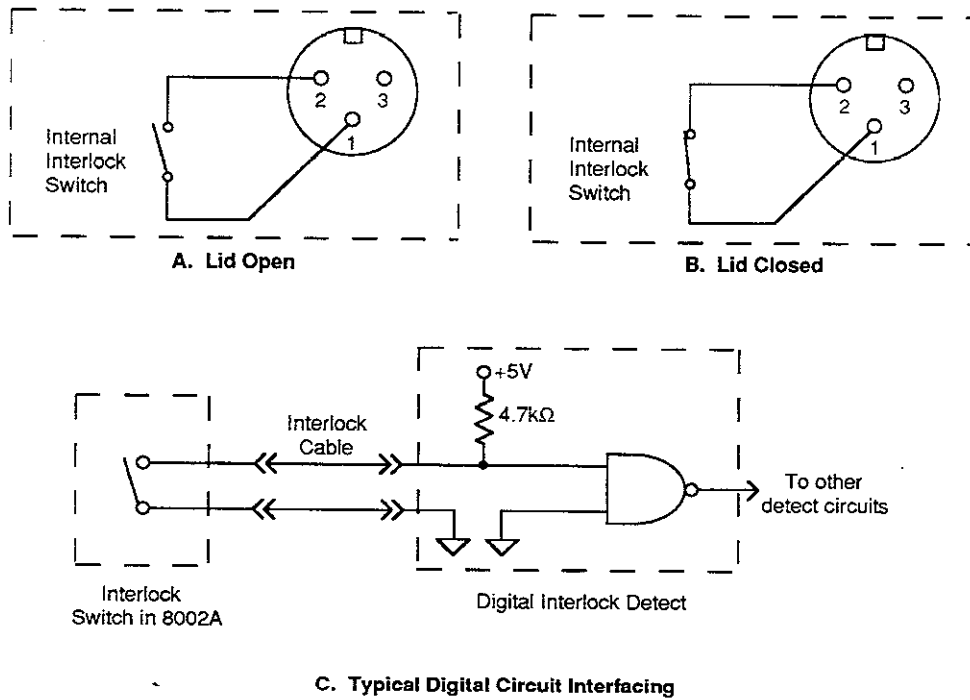

Figure 3. Interlock Circuit Wiring
**Lid Interlock Connector:** This connector allows the fixture to be connected to the interlock circuit of a Model 236/237 Source Measure Unit using a Model 236-ILC-3 interlock cable (supplied with the Model 236/237), or to other instruments using custom wiring and the supplied CS-662 interlock connector. Figure 3 shows interlock connector wiring and typical interfacing to other instruments such as those with a digital I/O port.